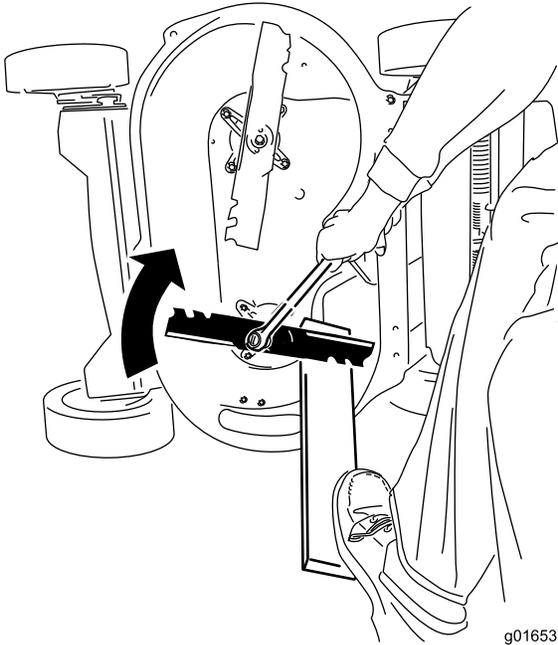

Figure 45
- Steady each blade with a board and turn the blade bolt clockwise with a torque wrench as shown in Figure 45; torque the blade bolt to 82 N-m (60 ft-lb).